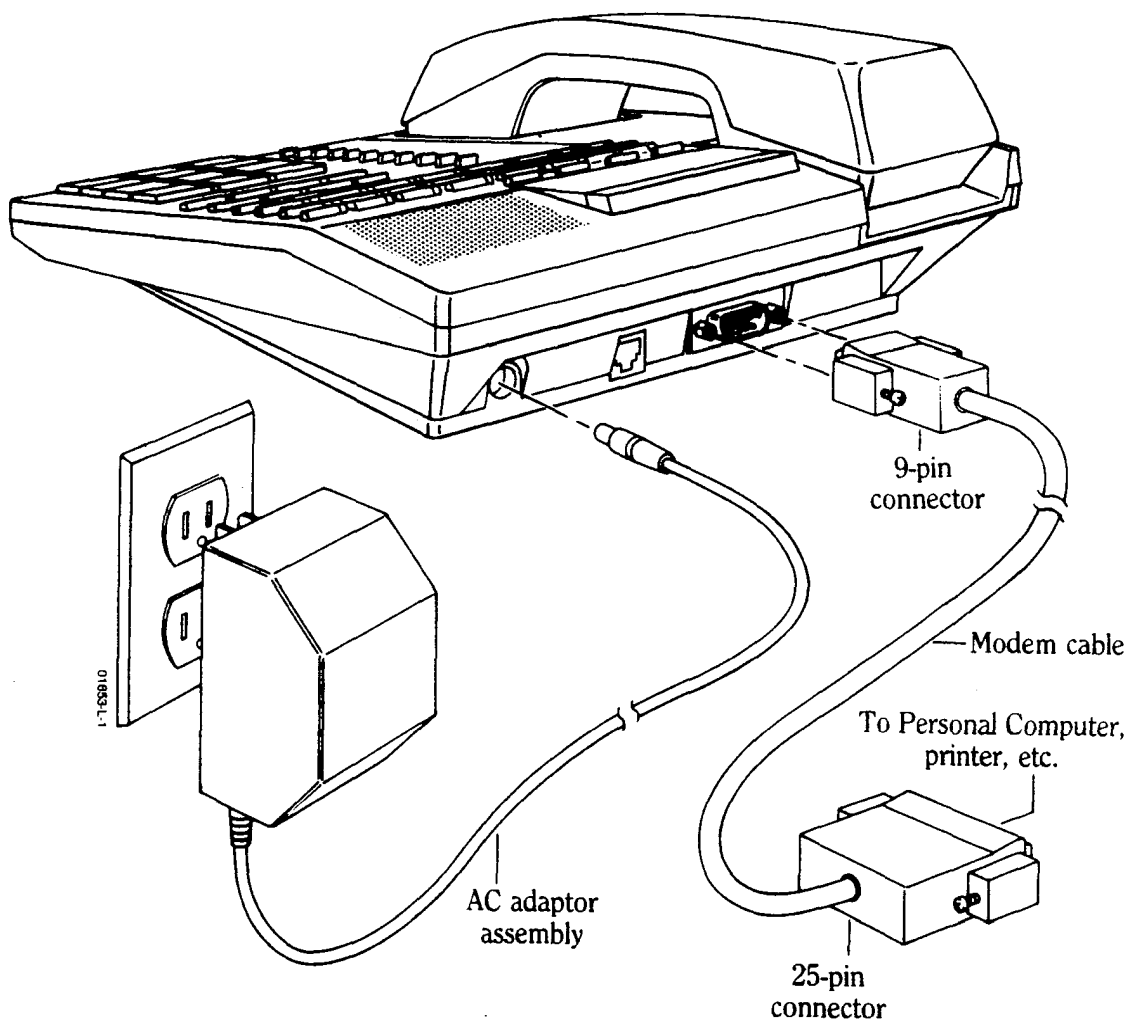

Figure 1 DATA TELEPHONE INSTALLATION
- Step 3 ▶ Connect the DB9 end of the cable (supplied) to the Data Telephone. Connect the other end to the RS-232 connector on the DTE device. Table 1 lists cable pinout functions. See Figure 1 — Data Telephone Installation.